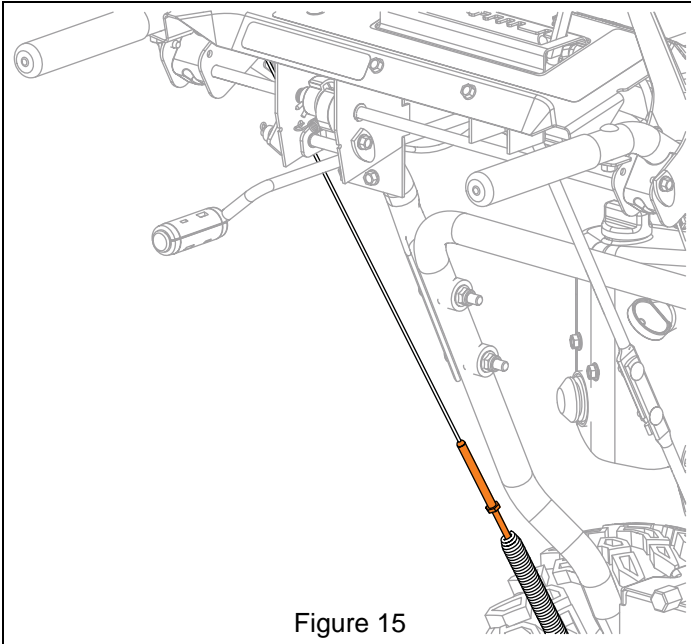

Figure 15
3. Loosen traction drive clutch cable. See Figure 15.